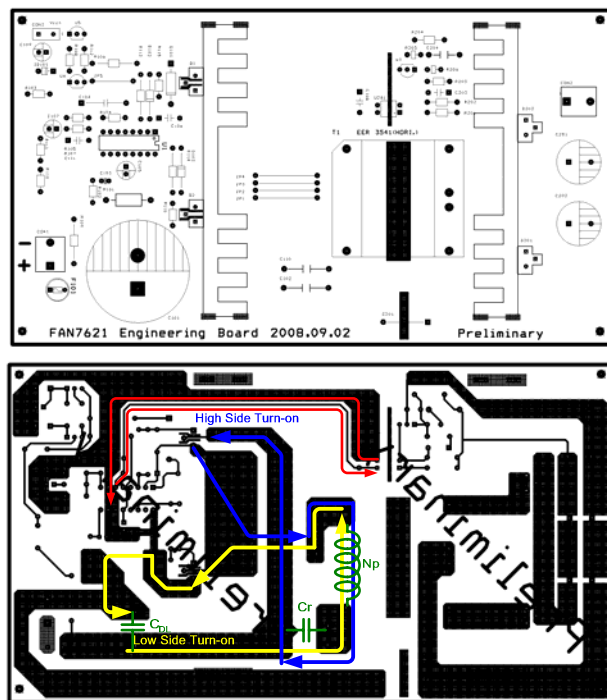

Figure 28. Example for Duty Balancing
**6. PCB Layout Guideline:** Duty imbalance problems may occur due to the radiated noise from main transformer, the inequality of the secondary-side leakage inductances of main transformer, and so on. Among them, it is one of the dominant reasons that the control components in the vicinity of  $R_T$  pin are enclosed by the primary current flow pattern on PCB layout. The direction of the magnetic field on the components caused by the primary current flow is changed when the high-and-low side MOSFET turns on by turns. The magnetic fields with opposite direction from each other induce a current through, into, or out of the  $R_T$  pin, which makes the turn-on duration of each MOSFET different. It is strongly recommended to separate the control components in the vicinity of  $R_T$  pin from the primary current flow pattern on PCB layout. Figure 28 shows an example for the duty-balanced case. The yellow and blue lines show the primary current flows when the lower-side and higher-side MOSFETs turn on, respectively. The primary current does not enclose any component of controller.
In addition, it is helpful to reduce the duty imbalance to make the loop configured between CON pin and optocoupler as small as possible, as shown in the red line in Figure 28.